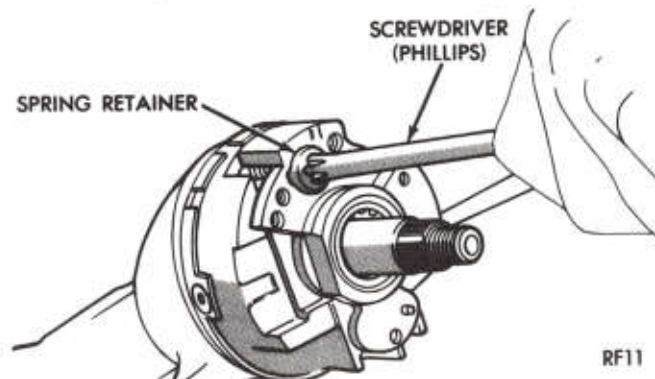
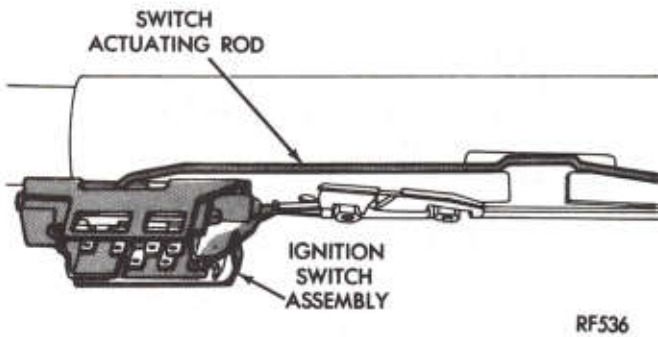

Fig. 7—Tilt Spring Retainer
Fig. 8—Ignition Switch
(10) Remove 3 housing cover screws and remove housing cover.
(11) Reinstall tilt release lever and place column in full "up" position. Remove tilt spring retainer using a large Phillips screwdriver. Insert screwdriver in opening, press in approximately 3/16 inch; turn approximately 1/8 turn counterclockwise until ears align with grooves in housing and remove spring and guide (Fig. 7).
(12) Push the upper steering shaft in sufficiently to remove steering shaft inner race seat and inner race.
(13) With ignition switch in ACCESSORY position, remove the ignition switch mounting screws and ignition switch (Fig. 8).